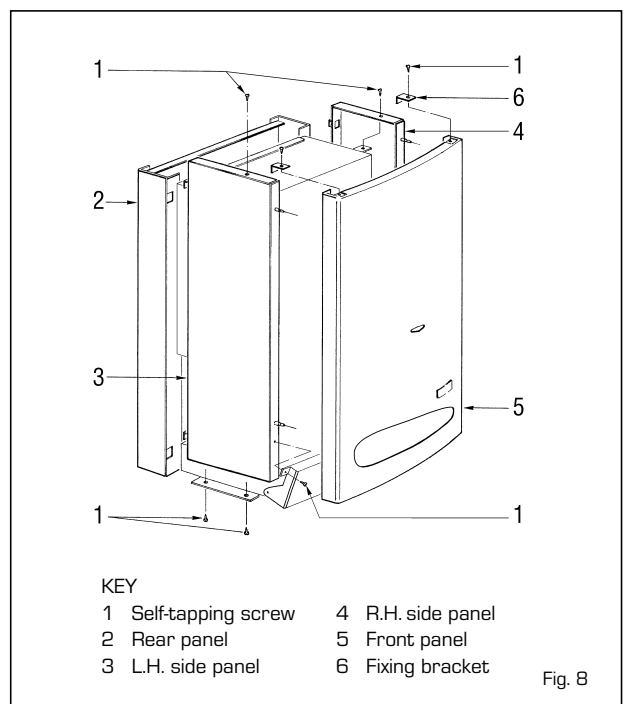

Fig. 8
- Remove the outer casing front panel fixing screw (6 fig. 8) and remove the front panel (5 fig. 8) by pulling forwards, starting at the top corners.